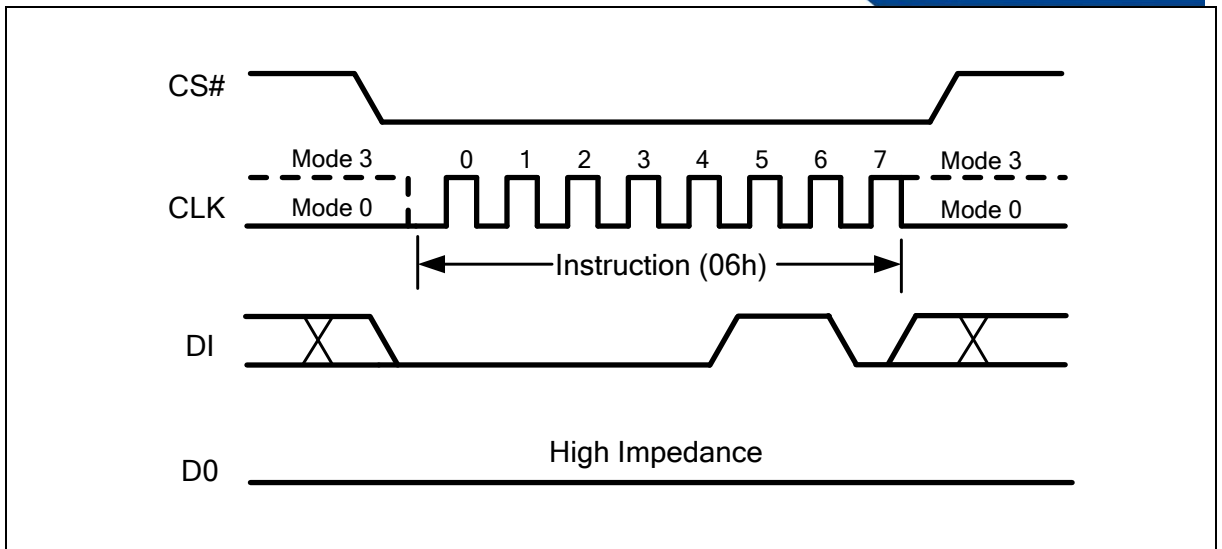
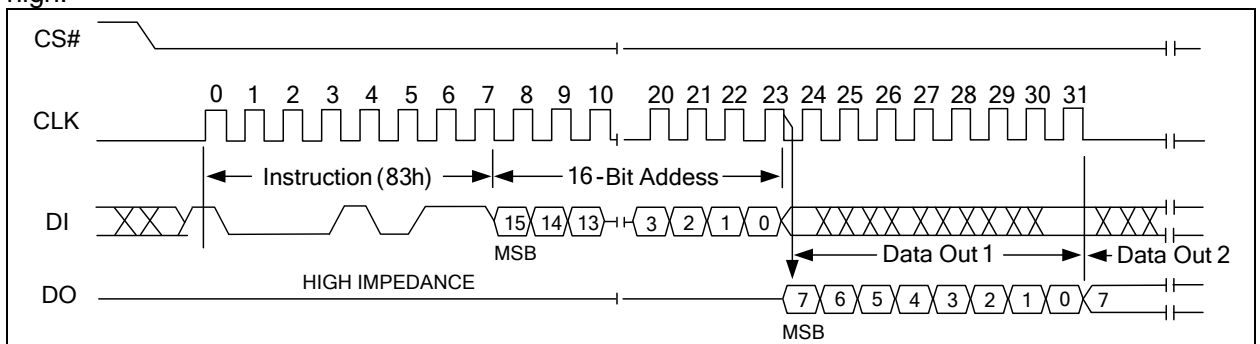

Figure 5 Write Enable Instruction
Figure 15 Read UID Number Sequence
Instructions vary in length from a single byte to several bytes and may be followed by address bytes, data bytes, and in some cases, a combination. Instructions are completed with the rising edge of edge CS#. Clock relative timing diagrams for each instruction are included in Figure 5 through Figure 15. All read instructions can be completed after any clocked bit. However, all instructions that Write must complete on a byte boundary (CS# driven high after a full 8-bits have been clocked) otherwise the instruction will be ignored. This feature further protects the device from inadvertent writes. Additionally, while the memory is being written, or when the Status Register is being written, all instructions except for Read Status Register will be ignored until the write cycle has completed.
The Write Enable (WREN) instruction (Figure 5) sets the Write Enable Latch (WEL) bit in the Status Register to a 1. The WEL bit must be set prior to every Write and Write Status Register instruction. The Write Enable (WREN) instruction is entered by driving CS# low, shifting the instruction code "06h" into the Data Input (DI) pin on the rising edge of CLK, and then driving CS# high.
The Read Unique ID Number instruction accesses a factory-set read-only 128-bit number that is unique to each FM25256 device. The ID number can be used in conjunction with user software methods to help prevent copying or cloning of a system. The Read Unique ID instruction is initiated by driving the CS# pin low and shifting the instruction code “83h” followed by a 16-bit address A15-A0 into the DI pin. Address bit A10A9 must be ‘01b’, upper address bits are don't care, the lower address bits [A3:A0] define the byte address inside the UID. After which, the 128-bit ID is shifted out on the falling edge of CLK as shown in Figure 15. When the end of the 128-bit UID number is reached (16 bytes of data), the data word address will roll-over back to the beginning of the 128-bit UID number. The read UID cycle is terminated by driving CS# pin high.